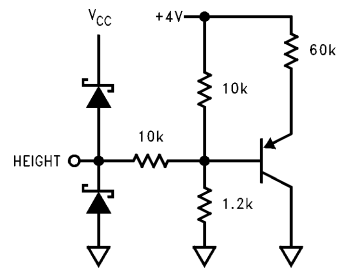

FIGURE 9
**Pin 2. HEIGHT:** A 0V to 4V DC voltage applied to this pin sets the output amplitude of the sawtooth waveform at pin 15 (SAWTOOTH OUT) as well as the output amplitude of the correction waveform at pin 11 (E-W OUT). See *Figure 9* for the input schematic.